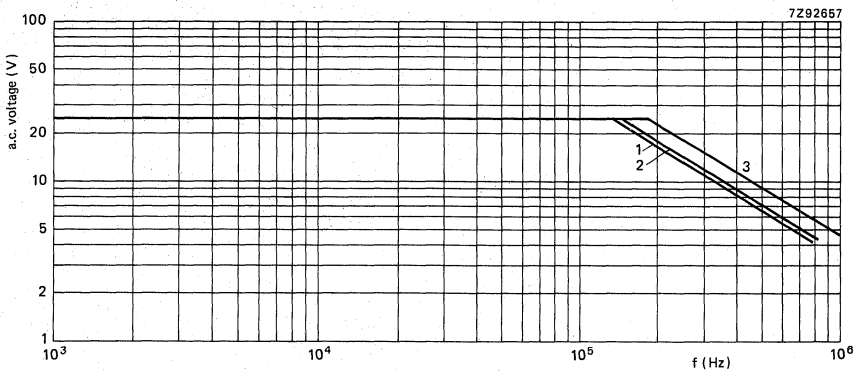

Fig. 2 Maximum a.c. voltage (r.m.s. value) as a function of frequency at $T_{amb} \leq 55 \text{ }^\circ\text{C}$, for $U_R = 63 \text{ V}$.
* At $T_{amb} \leq 70\text{ }^{\circ}\text{C}$ ($\leq 55\text{ }^{\circ}\text{C}$ for 63 V version) the maximum permissible sinusoidal voltage can be found in Figs 2 to 5.